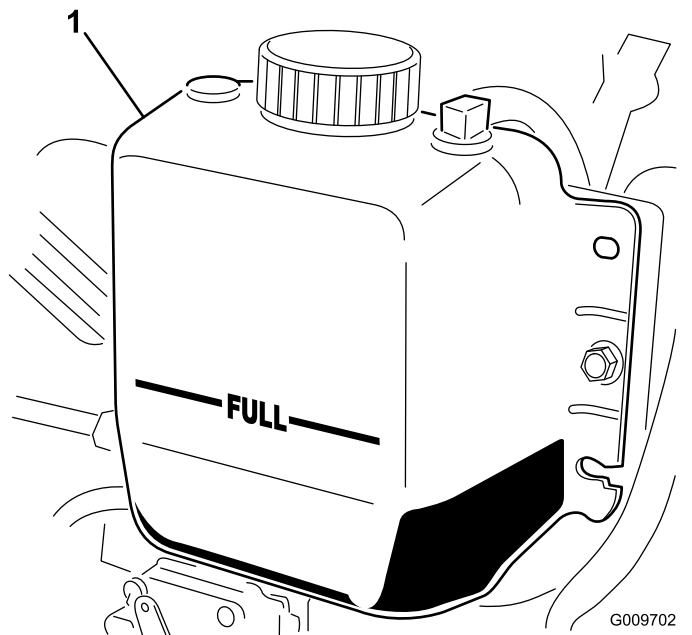

Figure 84
3. Check the coolant level in the radiator. The radiator should be filled to the top of the filler neck and the expansion tank filled to the FULL mark (Figure 84).